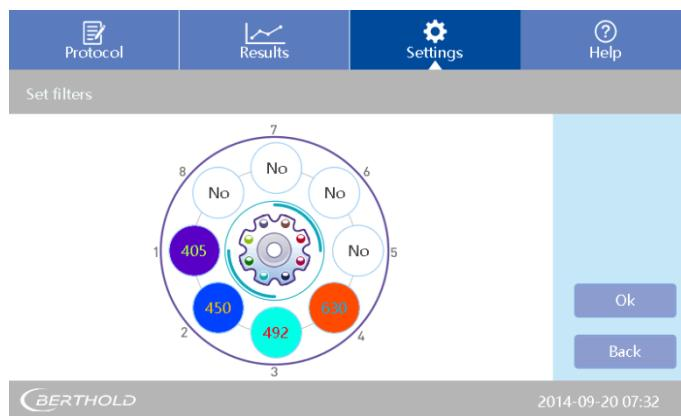
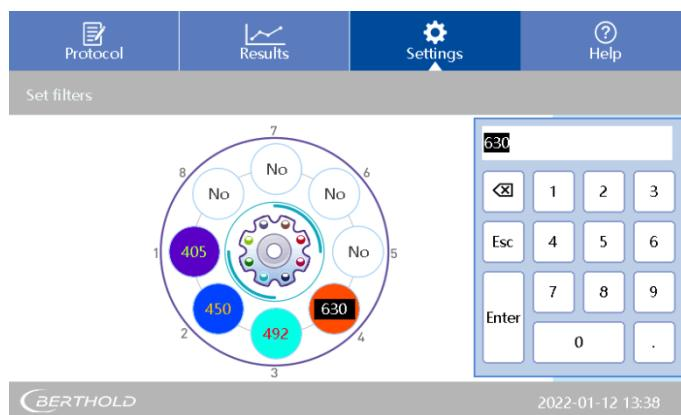

Fig 48: Filter settings
Fig 49: Set new filter
This instrument is equipped with four standard filters which have positions on the filter wheel from 1-4. For filter positions see Fig 48 and Fig 49 below.
1. Click the Filter icon in the [Settings] interface. See Fig. 48
2. Click a blank position <No>, input the wavelength using the pop up window. See Fig 49.